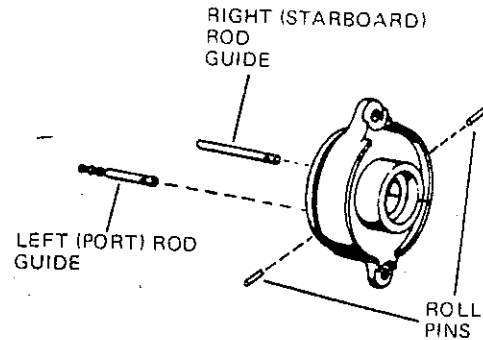

Figure 11. Remove roll pins and rod guides.
- L. To remove the shifter-bracket left and right rod guides from the cover assembly, tap out the roll pins (Figure 11).